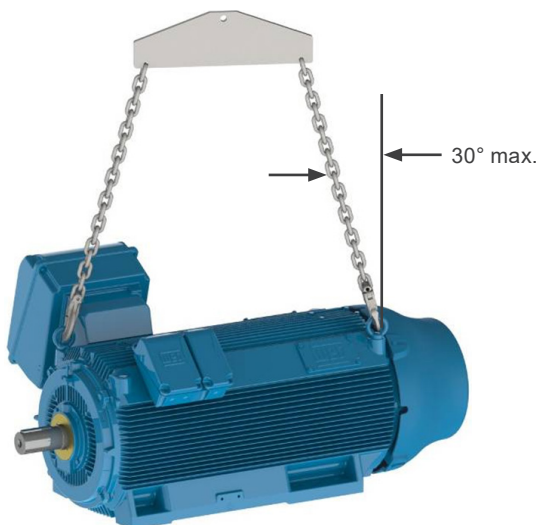

Figure 4.5: Maximum resultant angle for horizontal HGF motors
- For HGF motors, as shown in Figure 4.5 on page 22, the maximum resulting angle should not exceed 30° in relation to the vertical axis.